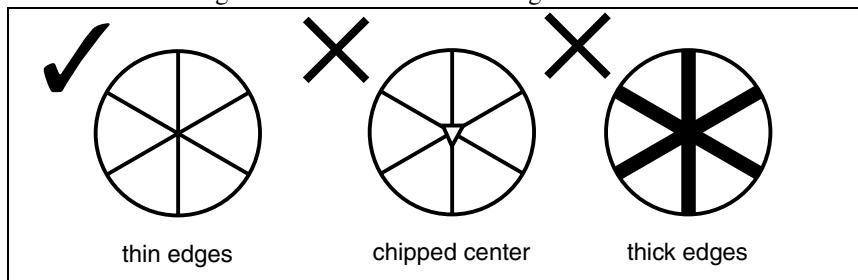

Figure 2.1 Prisms
- **Do not** use a prism with scratches, a dirty surface, or a chipped center. See Figure 2.1.
- Prisms with thin edges are recommended. See Figure 2.1.